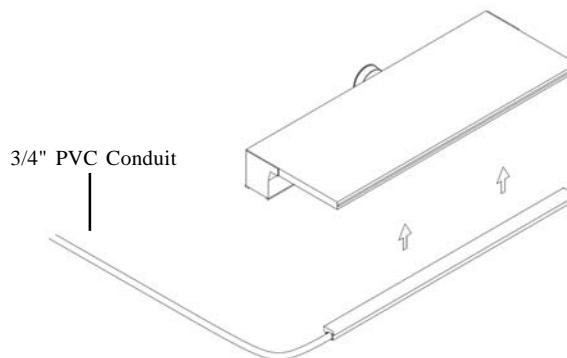

FIG. 1
- Install the Insert into compression fitting and fully seat insert (Fig. 1).
For all sizes of Fiberstars Waterfall Light Bars, install 3/4" PVC conduit from the left side of the fall (see Fig. 1) to the illuminator location. The conduit should be placed so the top of the hole in the conduit is even with the bottom of the waterfall lip.